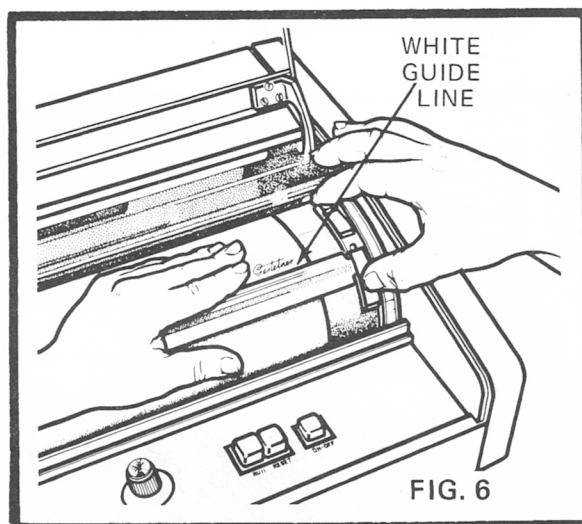

FIG. 6
up with the back edge of the clamp, (Fig. 6). Position the left edge of the stencil on the appropriate groove for either a standard 9" or narrow width 8½" stencil.
- 3) Using finger pressure to keep the right hand part of the stencil tightly wrapped on the drum, depress the right hand end of the stencil clamp and pull the sliding lock forward (Fig. 6).